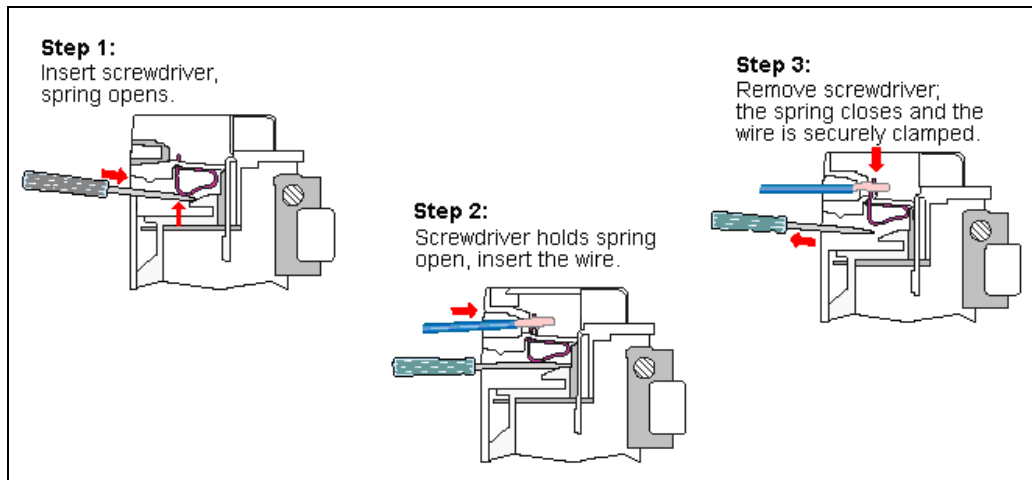

Figure 10: Cage Clamp Connection
5. Install the wires from the direct circuit into the cage clamps (**Figure 10**).